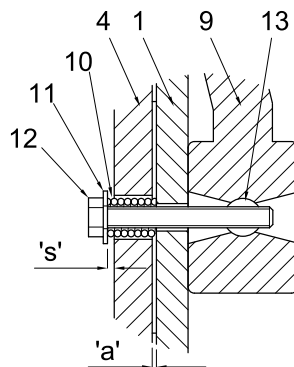

Figure 54 – Hoist Brake Hand Release
- Insert the compression springs (10) into the holes of the armature plate (1).
- Fit the washers (11) onto the hand release fixings (12) and assemble through the compression springs (10) and the stator (5).
- Fit the barrel nuts (13) into the holes provided in the hand release (9).
- Position the hand release (9) over the stator and tighten the hexagon screws (12) into the barrel nuts (13) until the armature plate moves towards the stator.
- Adjust the gap between the armature plate and the stator using the hexagon hand release screws (12) to achieve a dimension ('s' + 'a') (see Figure 54). Example 1.8mm (1.5+0.3) for brake size 3. Check the dimension at three positions around the circumference.
- Fit the complete brake assembly onto the hoist and tighten the assembly screws (7) to the value shown in the table (5.8.2).